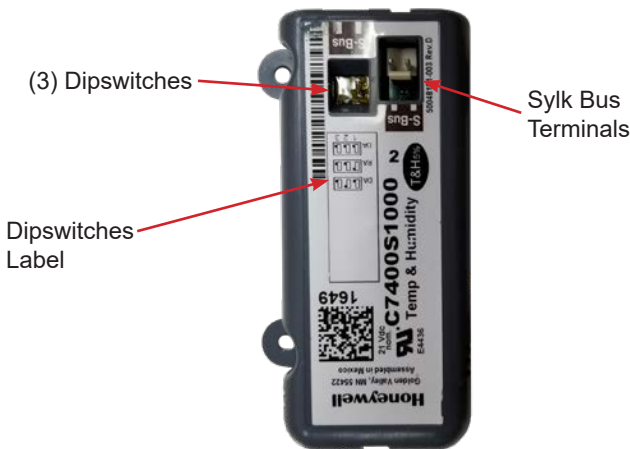
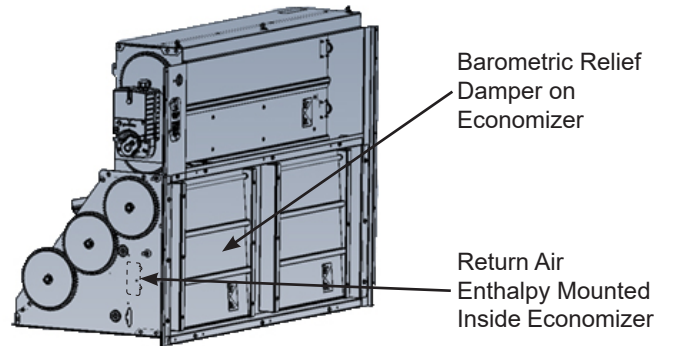

FIGURE 1 – DUAL ENTHALPY SENSOR
FIGURE 2 – RETURN ENTHALPY LOCATION
The economizer comes standard with a C7400S outdoor enthalpy factory mounted in the outdoor air stream, and is factory wired to the W7220 Logic Module. A second C7400S enthalpy sensor can be added to measure the return air enthalpy and provide a dual enthalpy strategy. The C7400S sensor is shown above in Figure 1.
2. Screw the sensor to the economizer side through pre-punched holes as shown in Figure 2 and 3. When installed the sensor should be oriented as shown in Figure 1 with the wire connections at the top and airflow sensing slots at the bottom.
4. When the C7400S sensor is used for return enthalpy, the dip switches on the sensor (see Figure 1) must be set to ON-OFF-OFF.